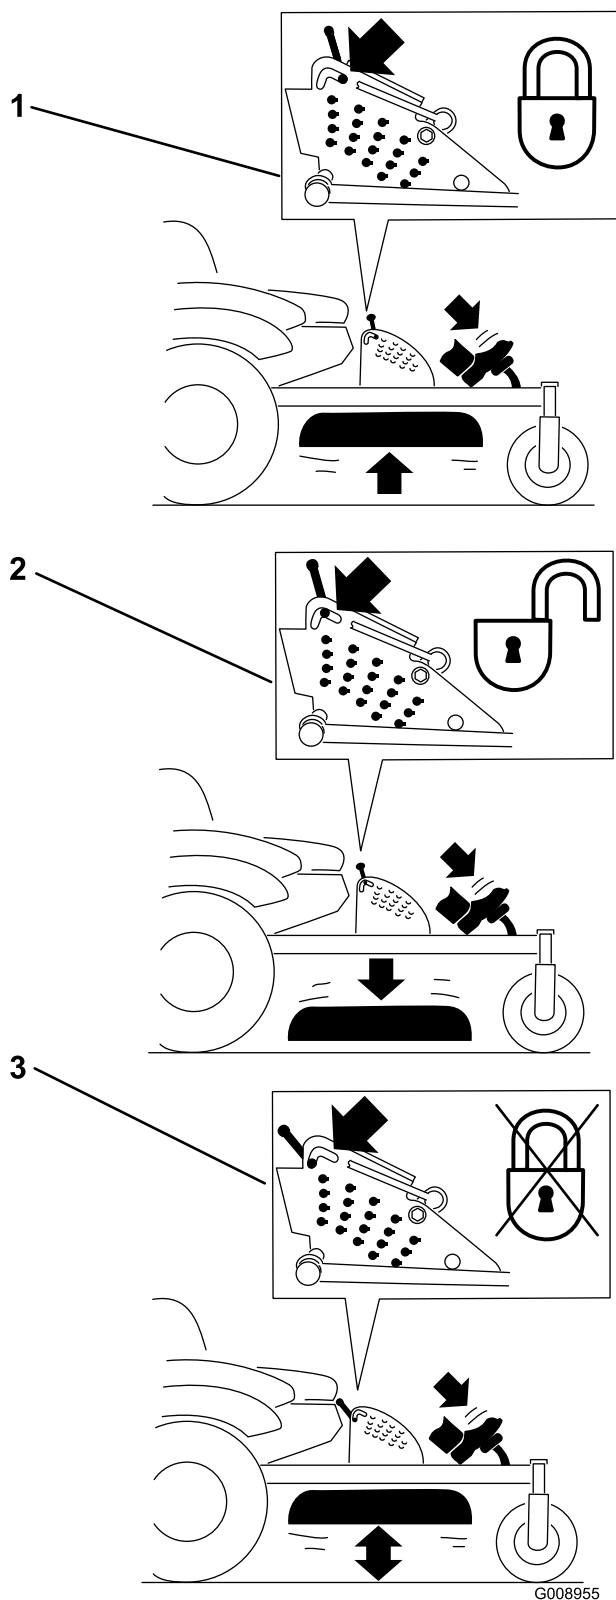

**Figure 23**
2. To go backward, slowly pull the motion control levers rearward (Figure 23).